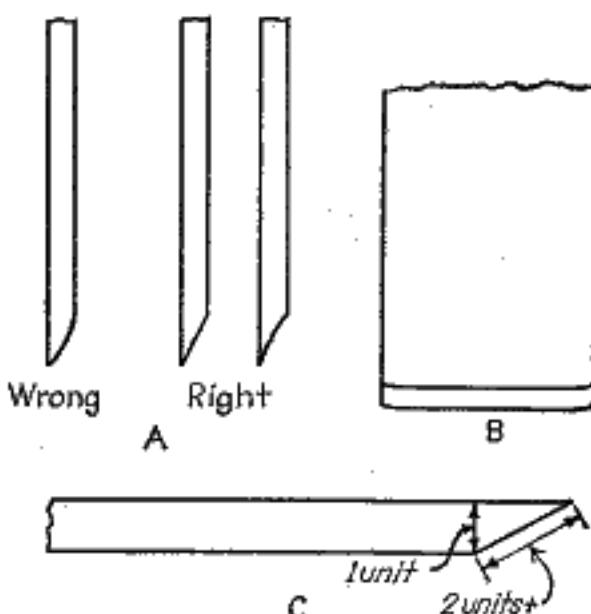

FIG. 105.—Grinding edge tools.
C. For general-purpose work, the length of bevel on a plane bit or wood chisel should be a little more than twice the thickness of the blade (see Fig. 105).
**131. Grinding Wood Chisels and Plane Bits.**—For general work, wood chisels and plane bits are usually ground at an angle of about 25 to 30 deg. For softwoods, the angle may be somewhat less, and, for hardwoods, somewhat more. The smaller the angle, the easier the tool will cut, but the sooner it will become dull. A good way to check the angle of grinding is to use a T-bevel set for the desired angle, or simply grind so that the length of the bevel is a little more than twice the thickness of the blade (see Fig. 105).